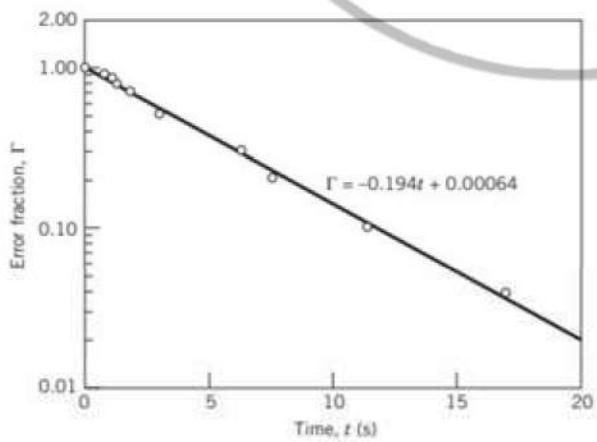

Figure 3.10 Temperature-time history of Example 3.5.
A particular thermometer is subjected to a step change, such as in Example 3.3, in an experimental exercise to determine its time constant. The temperature data are recorded with time and presented in Figure 3.10. Determine the time constant for this thermometer. In the experiment, the heat transfer coefficient,  $h$ , is estimated to be  $6 \text{ W/m}^2 \cdot ^\circ\text{C}$  from engineering handbook correlations.
**KNOWN** Data of Figure 3.10
**SOLUTION** According to Equation 3.7, the time constant should be the negative reciprocal of the slope of a line drawn through the data of Figure 3.10. Aside from the first few data points, the data appear to follow a linear trend, indicating a nearly first-order behavior and validating our model assumption. The data is fit to the first-order equation2